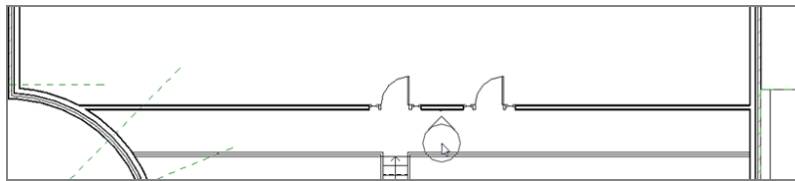

FIGURE 10.75: Pick the point as shown for the elevation.
4. Place it in the corridor wall aligned with the stairs, as shown in Figure 10.75.
5. Copy the door 10'-0" (3000mm) to the right (see Figure 10.75).